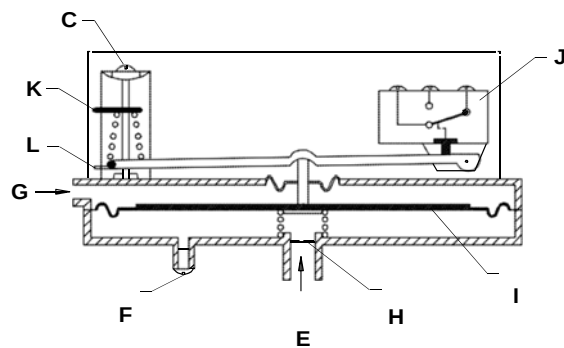

Fig. 2.
- Set cut off pressure on numerical scale indicator by adjusting the screw. (see fig. 2.)